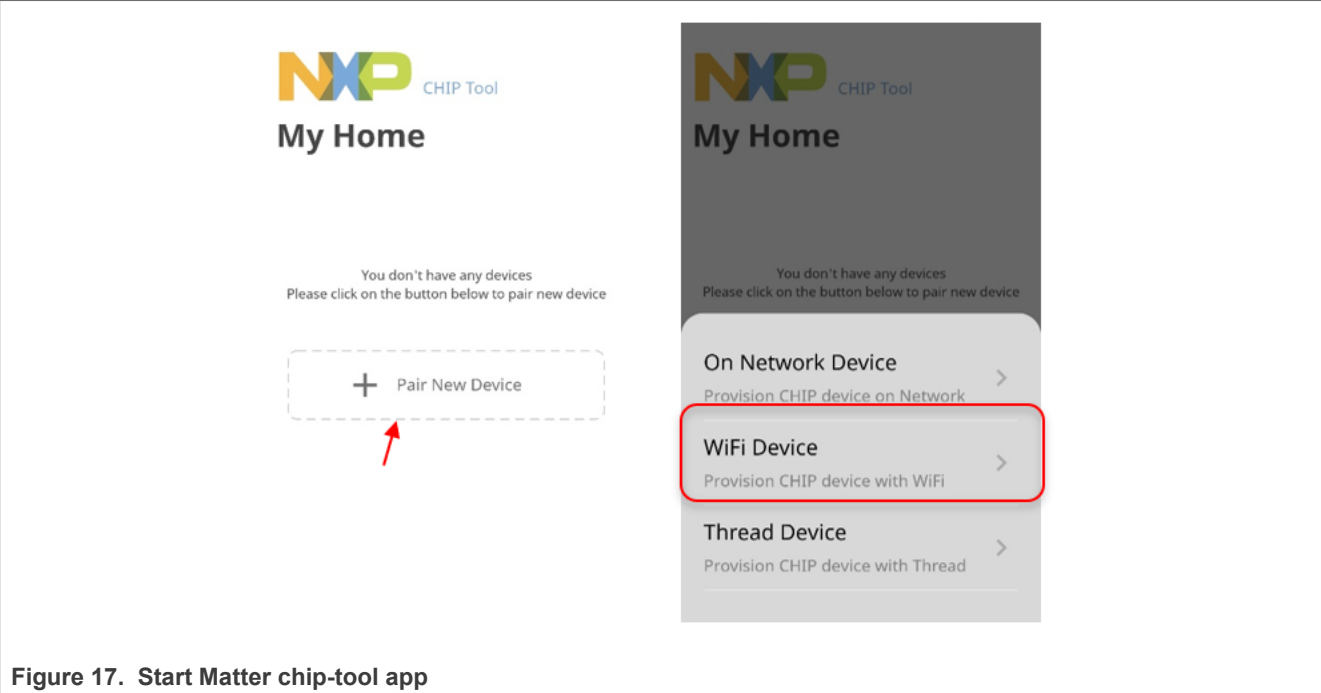

Figure 17. Start Matter chip-tool app
- 1. Click Pair New Device as shown in Figure 17